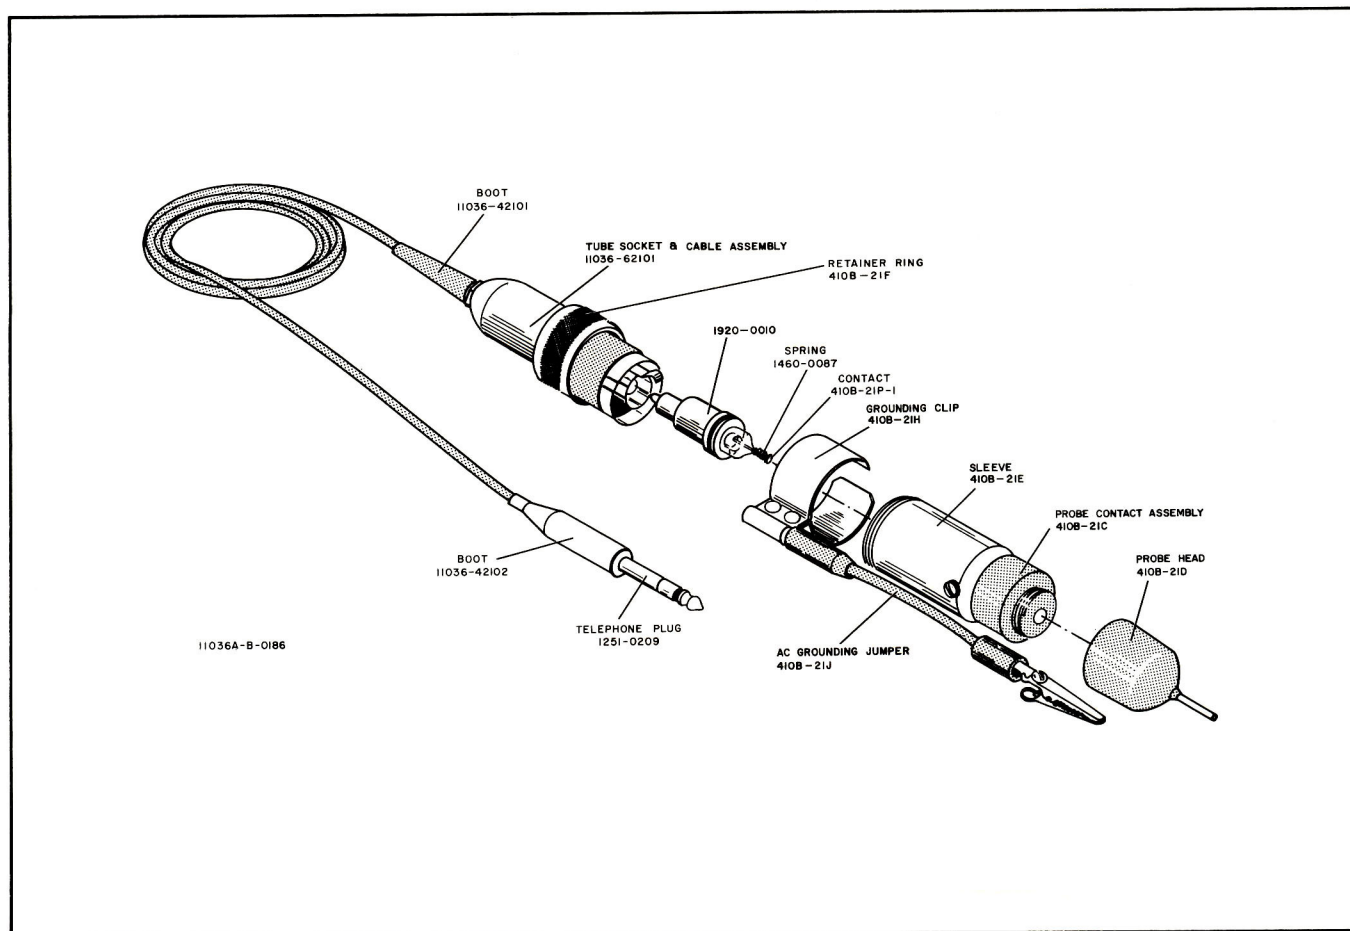

Figure 4. Exploded View
9. An exploded view of the 11036A AC Probe is shown in Figure 4. All assemblies are replaceable. The replacement of an assembly will not require the recalibration of the Model 410C Voltmeter. However, when replacing the diode V1, recalibration of the Model 410C may be necessary. The calibration procedures used for the ac circuit portion of the Model 410C are given in the maintenance section of the Model 410C manual.